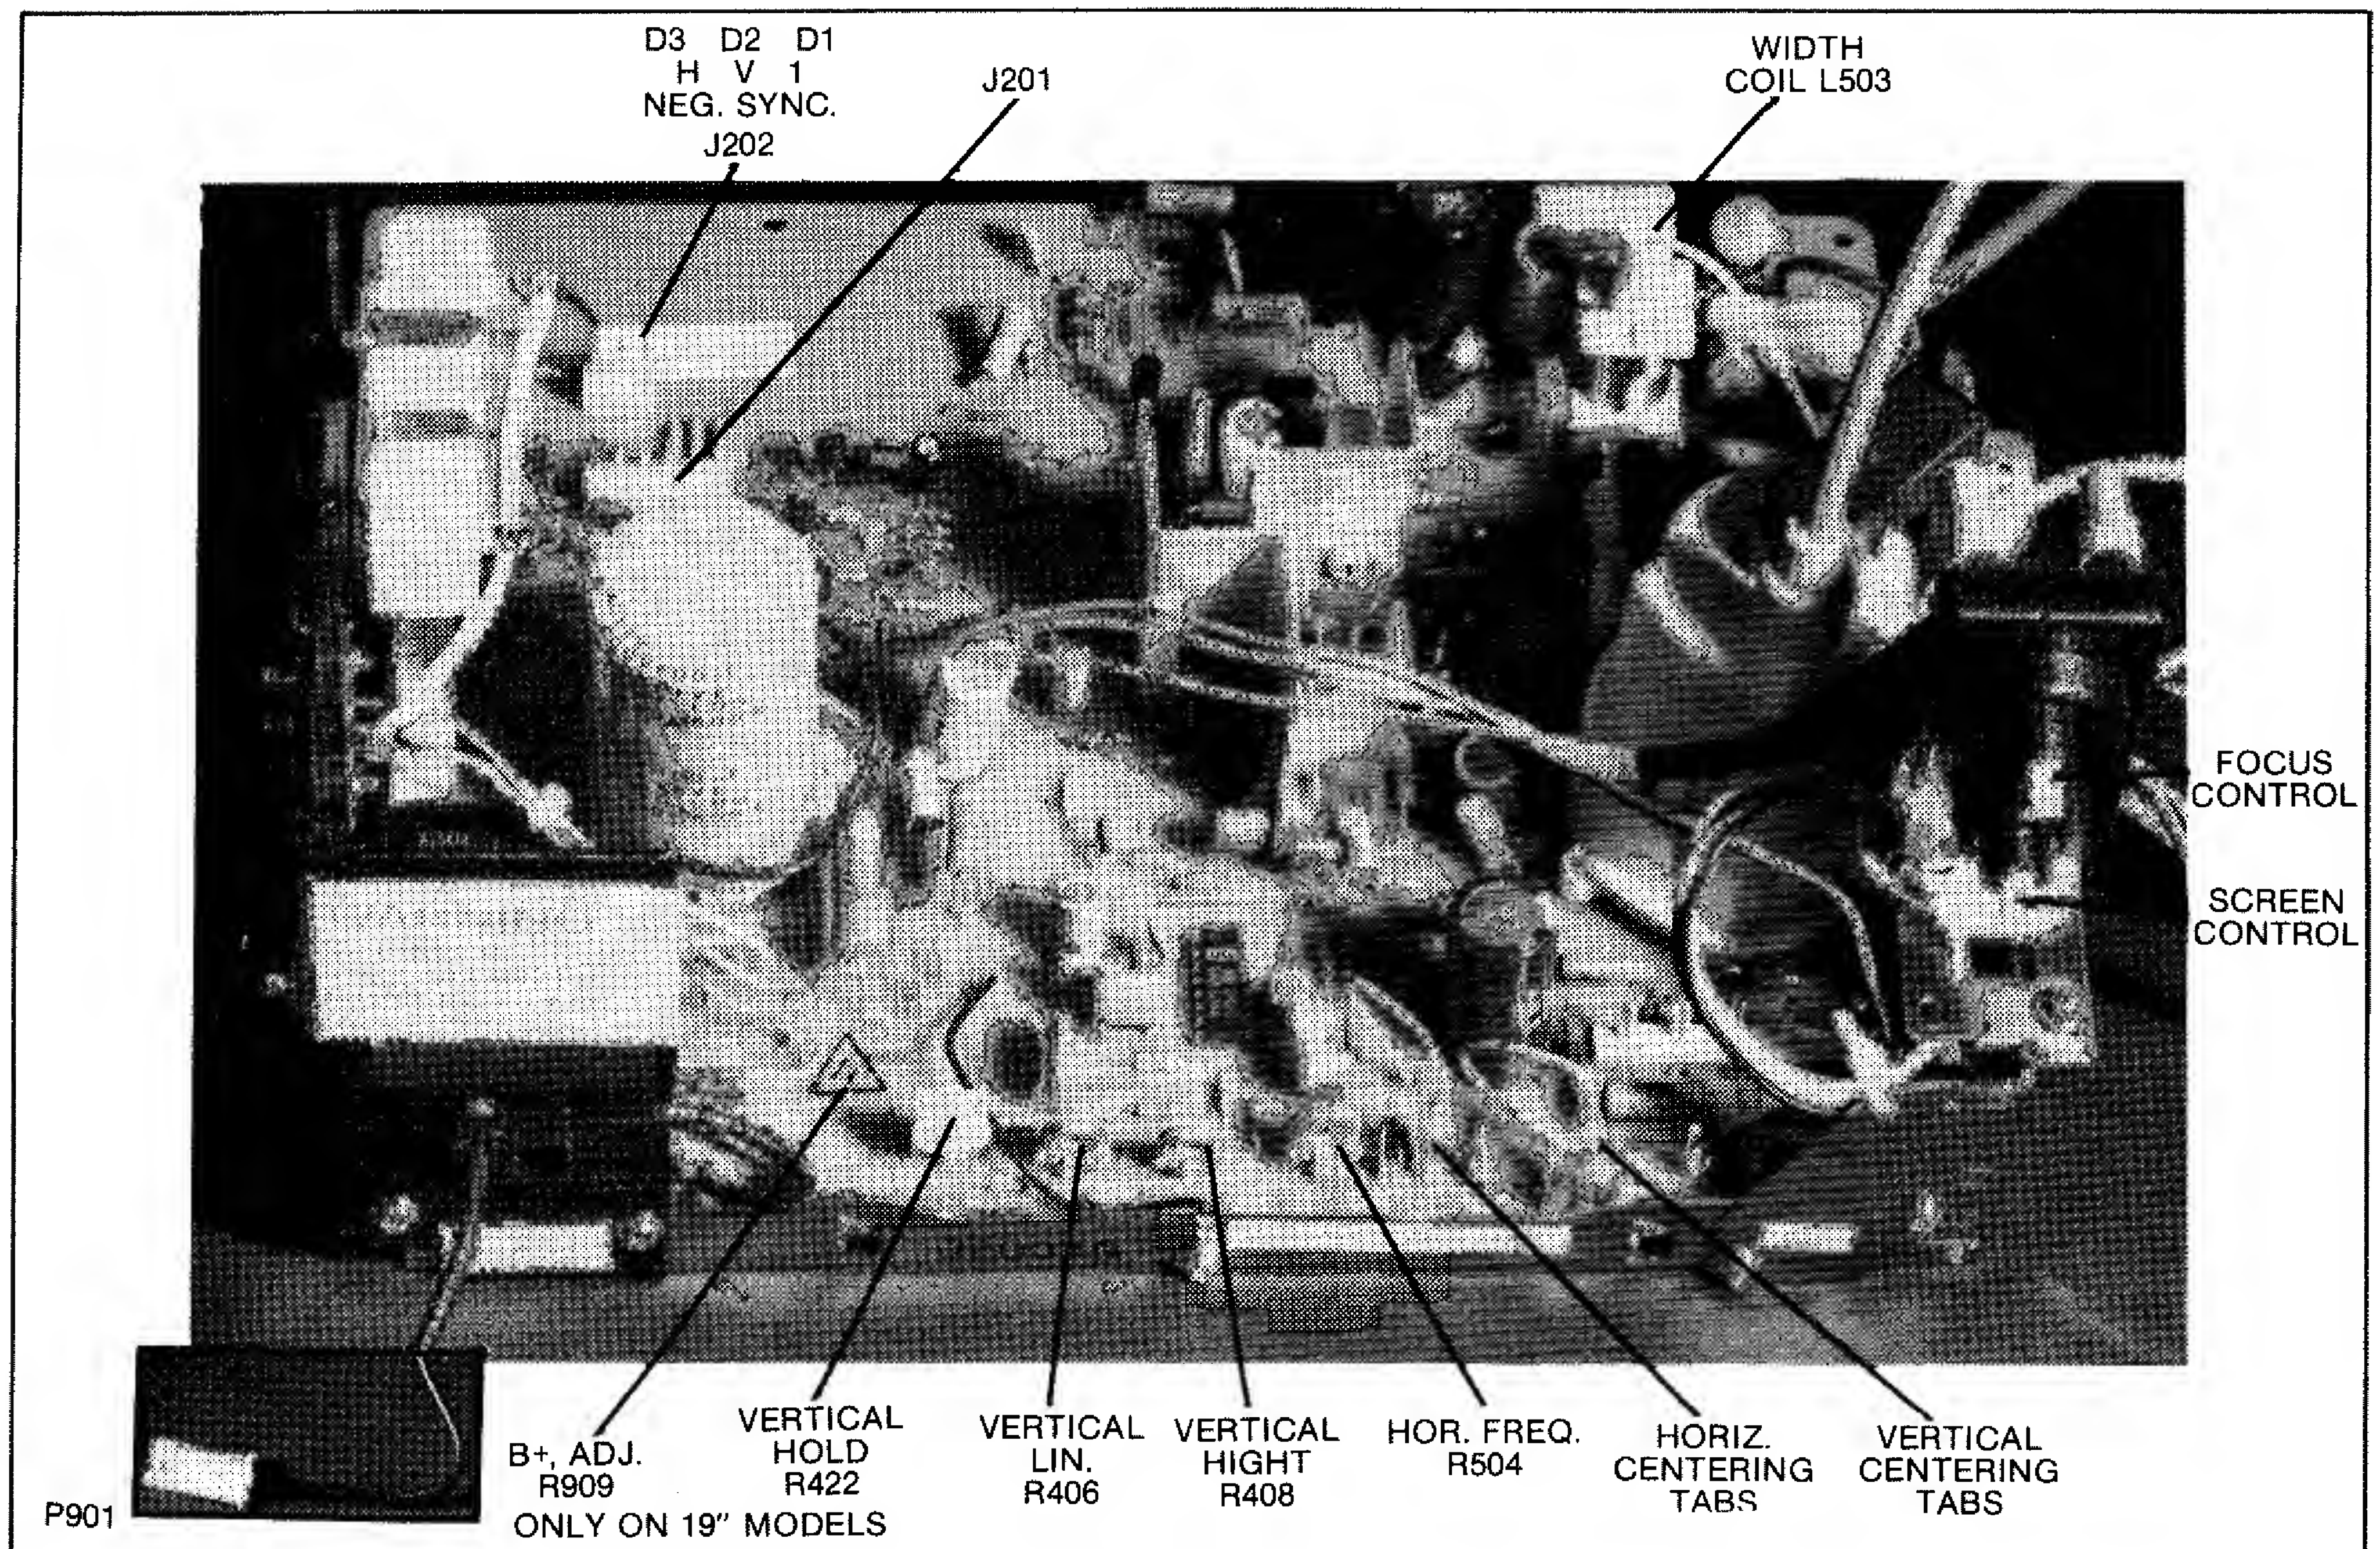

Figure 1
- Adjust R909 for 120V. (See fig. 1)